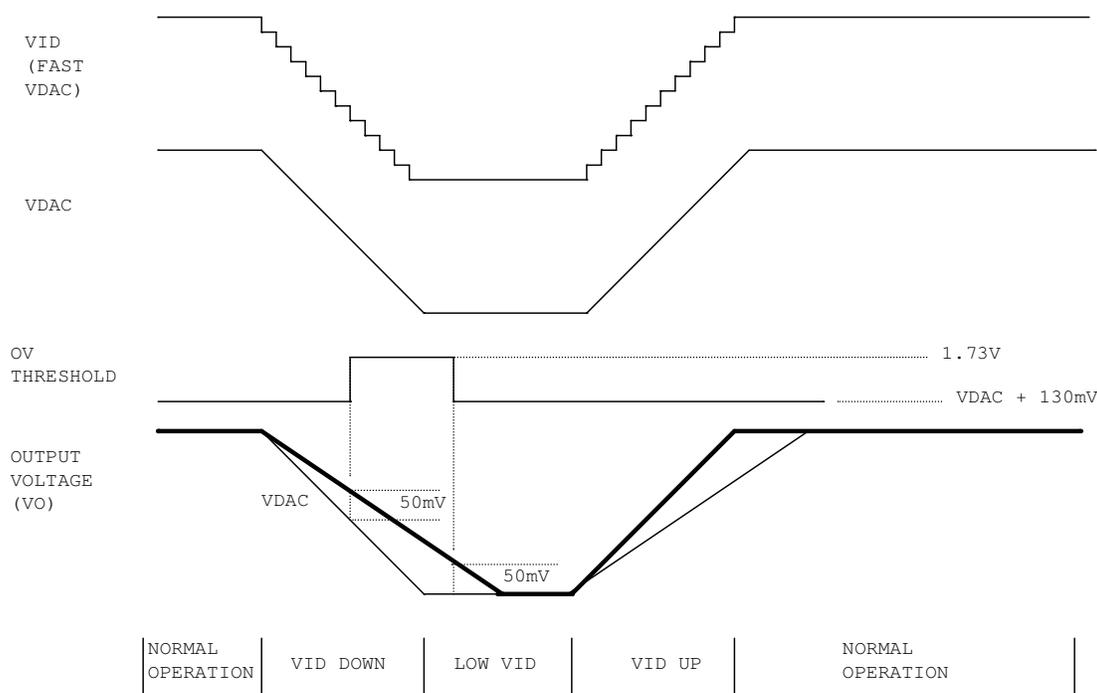

Figure 17 Over-voltage protection during dynamic VID
If either remote sense line $VOSEN+$ or $VOSEN-$ or both are open, the output of remote sense amplifier (VO) drops. The IR3502 monitors VO pin voltage continuously. If VO voltage is lower than 200 mV, two separate pulse currents are applied to $VOSEN+$ and $VOSEN-$ pins respectively to check if the sense lines are open. If $VOSEN+$ is open, a voltage higher than 90% of $V(VCCL)$ will be present at $VOSEN+$ pin and the output of open line detect comparator will be high. If $VOSEN-$ is open, a voltage higher than 700mV will be present at $VOSEN-$ pin and the output of open-line-detect comparator will be high. The open sense line fault latch is set, which pulls error amplifier output low immediately and shut down the converter. The SS/DEL voltage is discharged and the fault latch can only be reset by cycling $VCCL$ power. During dynamic VID down, OVP may be triggered when output voltage can not follow $VDAC$ voltage change at light load with large output capacitance. Therefore, over-voltage threshold is raised to 1.73V from $VDAC+130mV$ whenever dynamic VID is detected and the difference between output voltage and $VDAC$ is more than 50mV, as shown in Figure 17. The over-voltage threshold is changed back to $VDAC+130mV$ if the difference is smaller than 50mV.